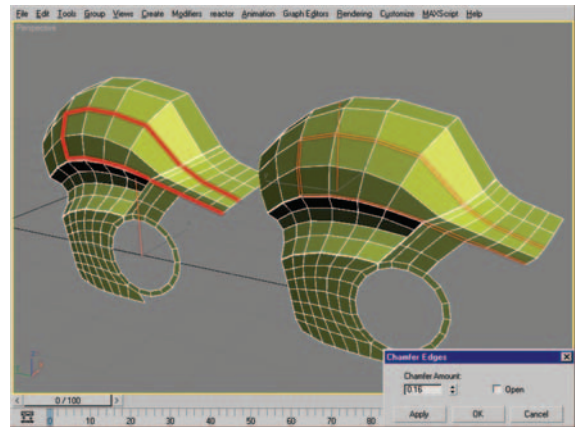

Figure 8.40 Edge selection and resulting mesh after using Chamfer with the settings outlined in step 42.
42. Select the 22 edges seen in Figure 8.40 (left) and use the Chamfer settings with a Chamfer Amount of 0.16 to create a second set of edges with the same directional flow (Figure 8.40, right).